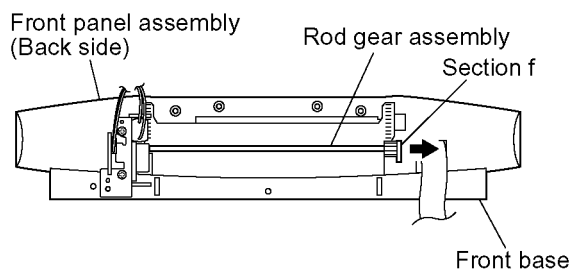

Fig.2-17
2.2.4 Removing the front board (See Figs. 2-17 to 2-20.)